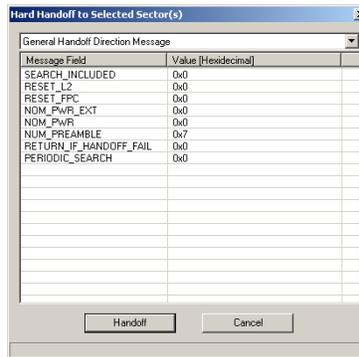

Figure 5-2: Handoff Direction Message Selection and Configuration
7. Select the BTS icon for the target sector, and then select **Test>Hard Handoff to Selected Sector(s)** from the menu. This opens the window shown in Figure 5-2, allowing you to select the type of Handoff Direction Message. The available Handoff Direction Messages are: